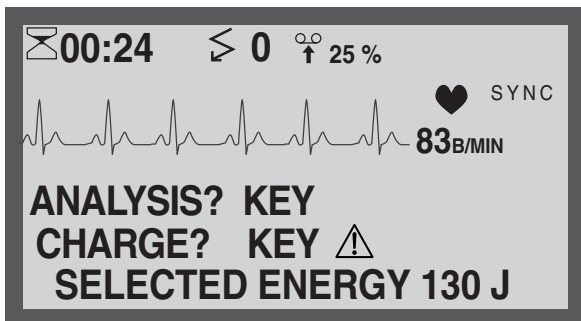

Figure 6-15. Manual mode display
Figure 6-15 shows the display of a device operating in the manual mode.
- the device automatically selects synchronized defibrillation if an ECG signal is available (message SYNC next to the QRS blip, Figure 6-15). The ECG signal can be acquired either via the pads or via ECG electrodes. If an ECG signal is not available, the device will select non-synchronized defibrillation after 3 seconds (message SYNC disappears).